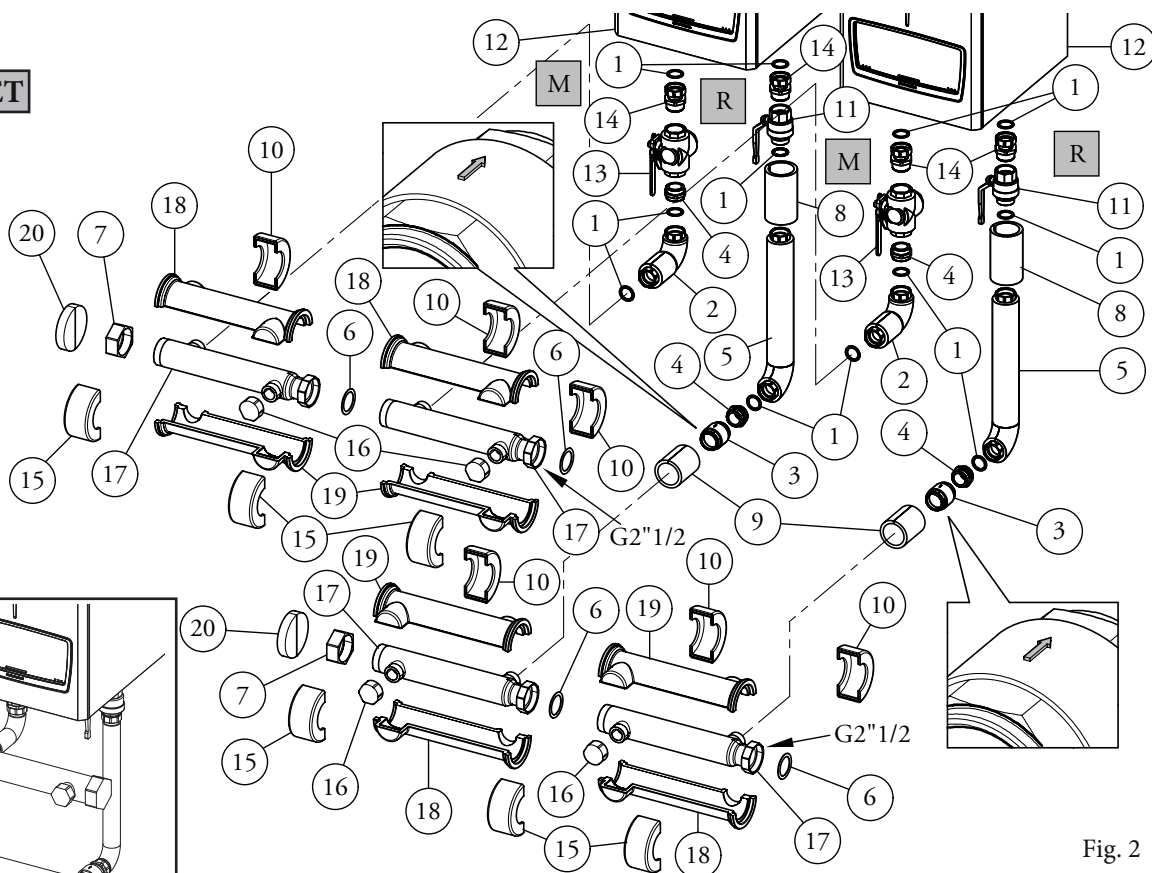

Fig. 2
N.B.: montare le valvole (11 e 13) come indicato in fig. 2.
Ad installazione e collaudo effettuati inserire le coibentazioni (8, 9, 10, 15, 18, 19 e 20) sui relativi componenti come rappresentato in Fig. 2.
Attention: when installing the check valves (3) make sure that the arrow on their casing faces the rear wall as shown in figure 2. Also make sure to interpose suitable sealing material such as oakum or similar on the connection thread.
N.B.: assemble the valves (11 and 13) as shown in fig. 2.
Connect the flow manifolds (17) to the insulated pipes (2) and the return manifolds (17) equipped with check valves to the insulated pipes (5). Make the connection respecting the arrangement shown in figure 2 and interposing the gaskets (1) and (6).
After the 1st temperature test, check the tightness of all the pipes. After installation and testing, insert the insulation (8, 9, 10, 15, 18, 19 and 20) on the relevant components as shown in Fig. 2.